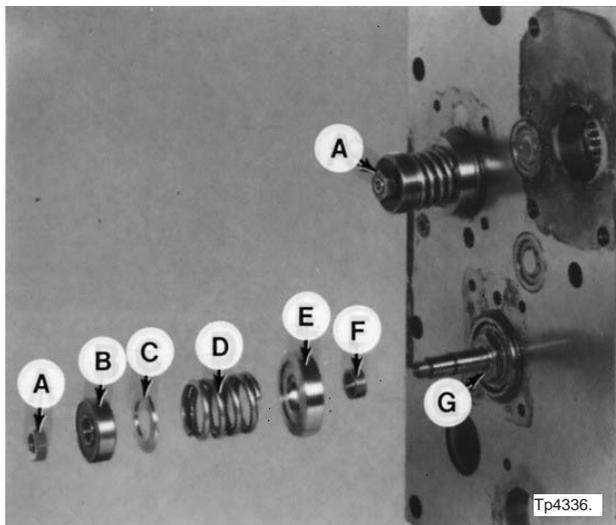
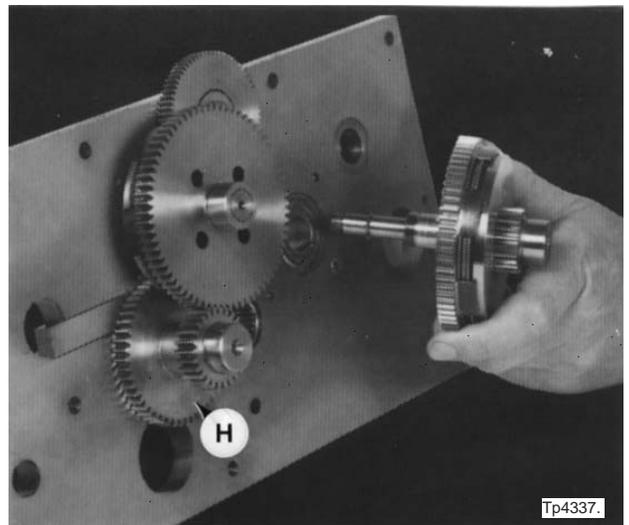
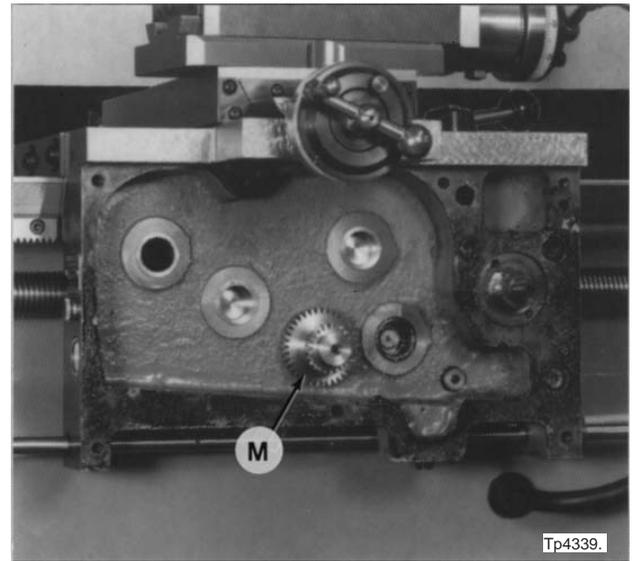
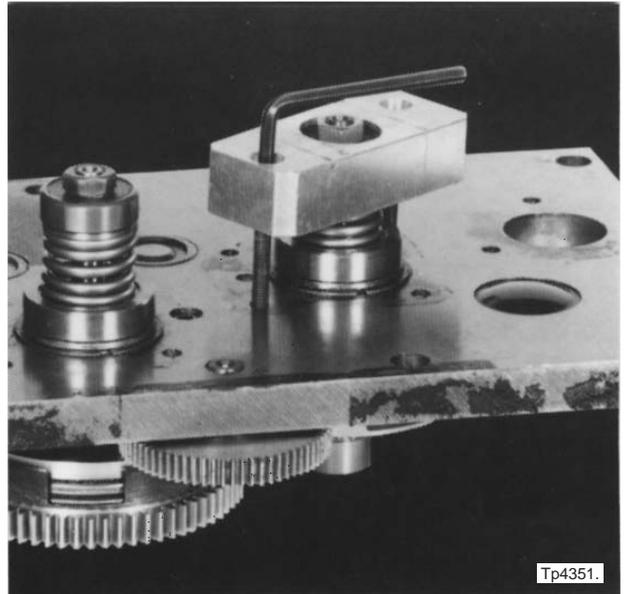

Figure 1.9 - Power Feed Clutch Components
Figure 1.10 - Clutch Removal
Figure 1.12 - Carriage Apron with Cover Removed
Figure 1.24 - Clutch Spring Replacement
**Spring "D", Figure 1.9, is under tension. Use caution when loosening and removing nuts "A".**
16. Carefully loosen and remove two nuts "A", Figure 1.9 .
18. Remove two nuts "G", Figure 1.9, to remove the carriage and cross feed clutch assemblies, as shown in Figure 1.10 .
20. Remove intermediate gears "H", Figure 1.10 and "M", Figure 1.12 .
8. Replace intermediate gears “H”, Figure 1.10 and “M”, Figure 1.12 .
10. Install the carriage and cross feed clutch assemblies in the apron cover as shown in Figure 1.10, using two nuts “G”, Figure 1.9 .
11. Replace spacers “F”, spring seats “E”, springs “D”, washers “C”, and bearings “B”, Figure 1.9 .
Compress springs “D”, Figure 1.9, until nuts “A” can be threaded on flush with the top of the shaft. Note the bracket used in Figure 1.24 .
12. Install two nuts “A”, Figure 1.9 .